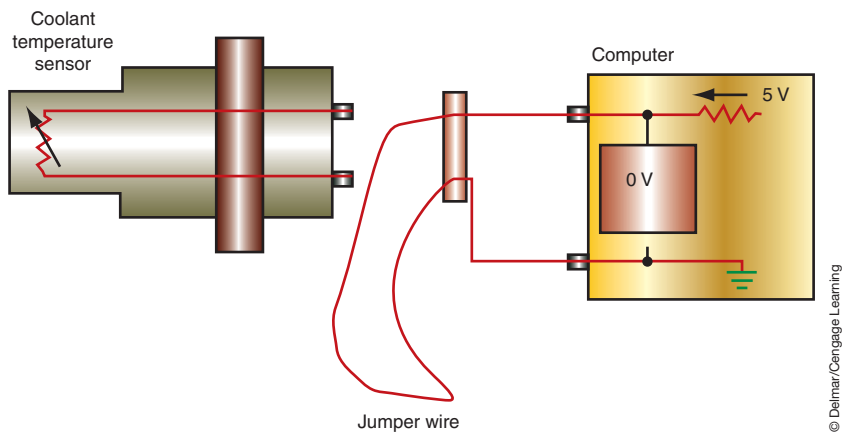

FIGURE 10-40
- What is being tested in Figure 10-40?